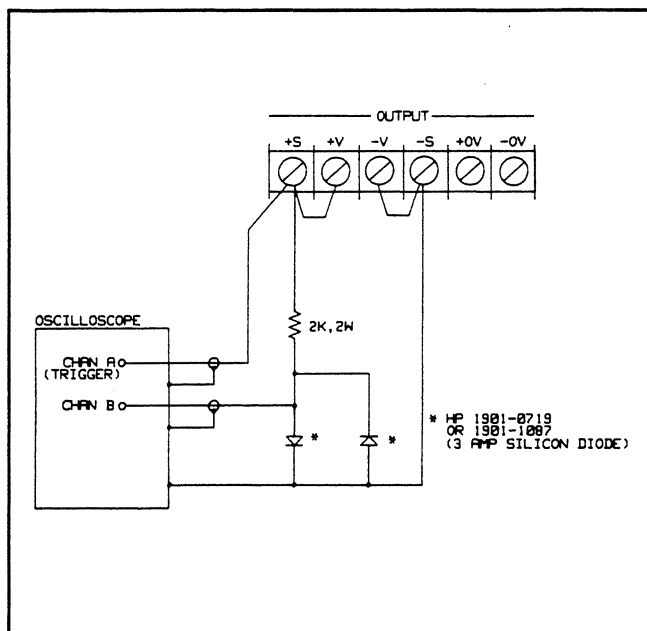
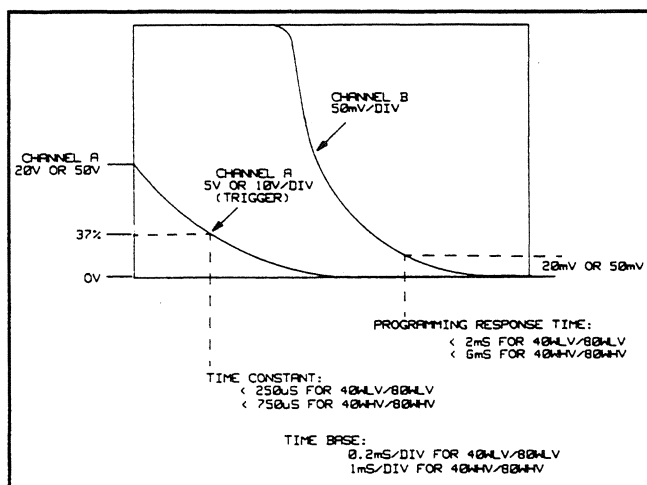

Figure 3-4. Down Programming Speed Test Setup
Figure 3-5. CV Down Programming Speed Test Waveforms
- Turn off the supply and connect the output to be tested as shown in Figure 3-4.
- On Channel A, observe the output voltage transition from the High Range Full Scale Voltage to the scope's bottom horizontal line. Look for a smooth exponential waveform with no "kinks" or aberrations. Perform a time constant check by insuring that the output voltage falls to about 37% of the High Range Full Scale in less than 250  $\mu$ sec. (40WLV/80WLV outputs) or 750  $\mu$ sec. (40WHV/80WHV outputs). Refer to the Channel A waveform shown in Figure 3-5.
- h. Now observe Channel B on the oscilloscope while maintaining the trigger on Channel A as in step f. Note that the diode clamp, used in the test setup of Figure 3-4, prevents gross overload of Channel B (which is set at 50 mV/div) allowing examination of the "tail" of the exponential waveform. The output voltage should be within 20 mV of its final settling value on the bottom horizontal line in less than 2 msec for 40WLV/80WLV outputs and within 50 mV in less than 6 msec for 40 WHV/80 WHV outputs. Refer to the Channel B waveform shown in Figure 3-5.